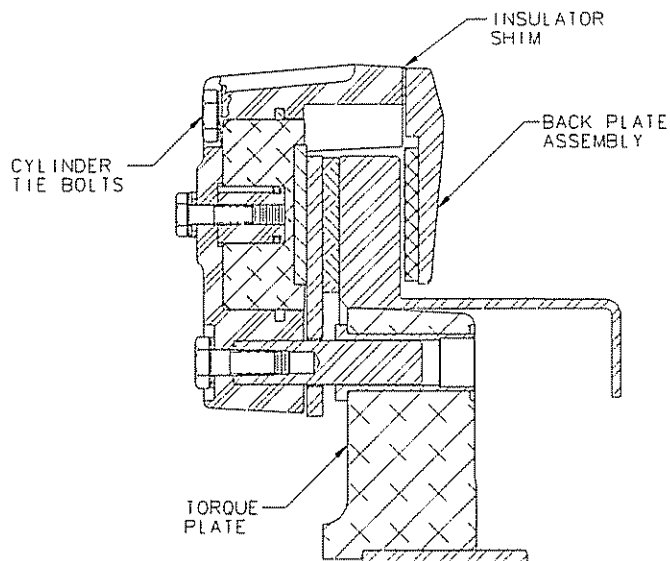

Figure 101
- B. Remove the eight cylinder tie bolts and eight washers, and two back plate assemblies and insulator shims (see Figure 101).